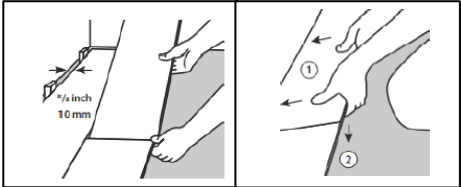

Figure 4
- Install the second plank of the second row by installing its short edge to the previous row’s groove. Hold a plank at approximately a 30-degree angle and connect short end joints together about half-way down the width of the short edge. Before lowering the right edge of the plank, slide it forward towards the previous row. Install the remaining planks and rows in the same manner (**Figures 4**).